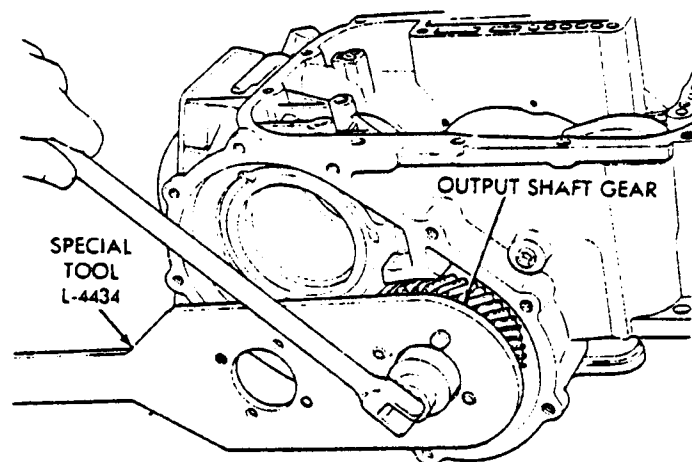
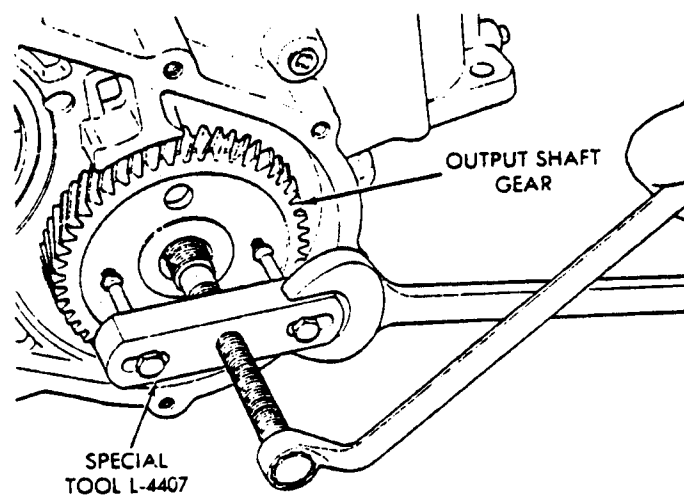

FIGURE 3
FIGURE 4
1. For removal of the retaining nut and washer, use Tool L-4434, reference Figure 3. Use Tool L-4407 to remove the output gear, reference Figure 4.